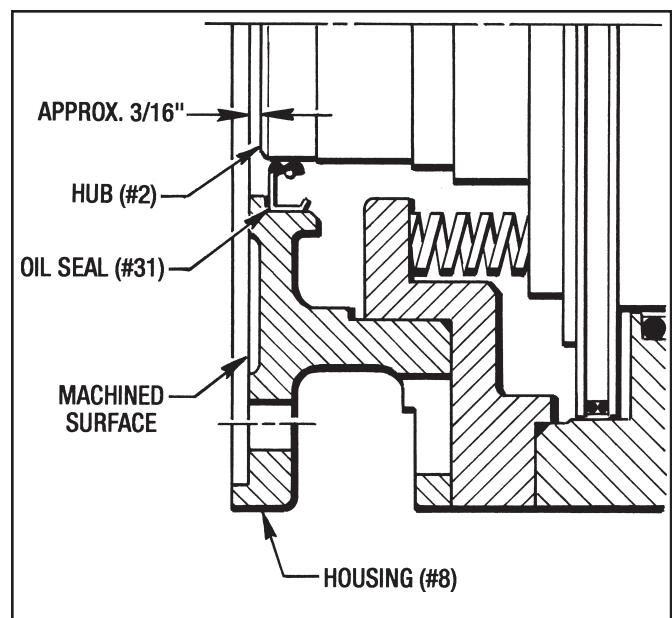

Figure 3.2 - Hub Alignment
4. Align the Hub (#2) approx. 3/16" from the machined surface of the motor mounting flange as shown in Figure 3.2.